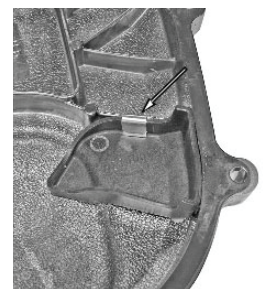

FIGURE 2
5. See **Figure 2**. Carefully position deflector in primary cover and press firmly into place. Slide deflector into position. DO NOT lift.